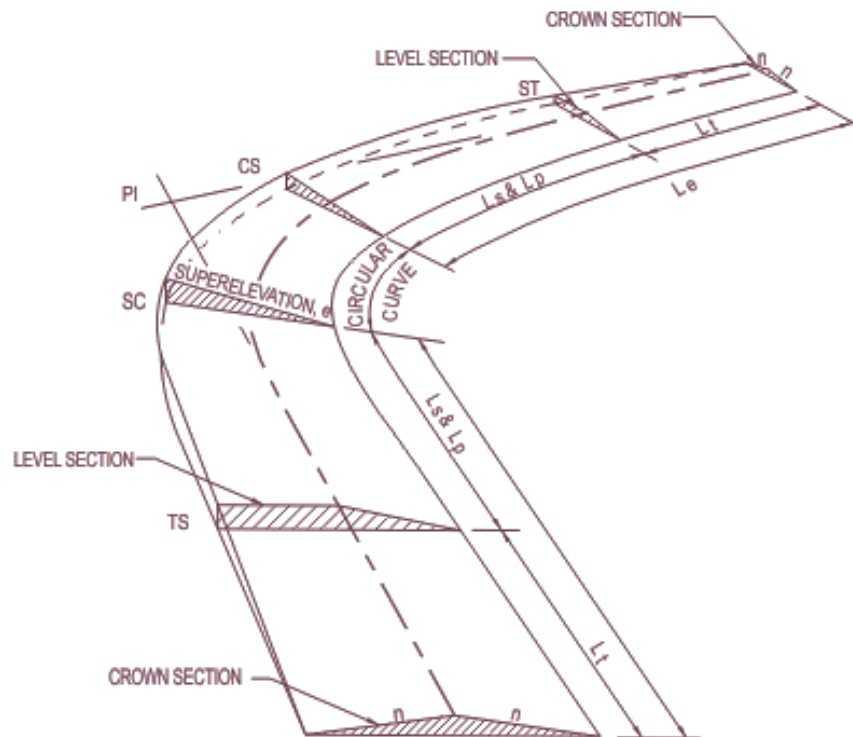

Figure 1
- [a] Horizontal curves provide transitions between two tangent lengths of a roadway. To attain a smooth transition, a simple circular curve that the PI at station 20+50.25, with the Δ equal to 35° has been designed. The degree of curvature is approximately 6° . Based on the given information, you are required to sketch an appropriate diagram and locate the station of the point of curvature (PC) and the point of tangent (PT) **(10 marks)**
- [b] A two-lane rural highway (Figure 1) with a design speed of 100km/h goes from normal crown with 2.5% cross slope to 6% super-elevation by means of a spiral transition curve. The spiral curve is 85m long. If the super-elevation is attained by rotating the road section around the centreline, sketch a cross-section diagram of the road at 10, 30, 50, and 70m from the tangent to spiral (TS)